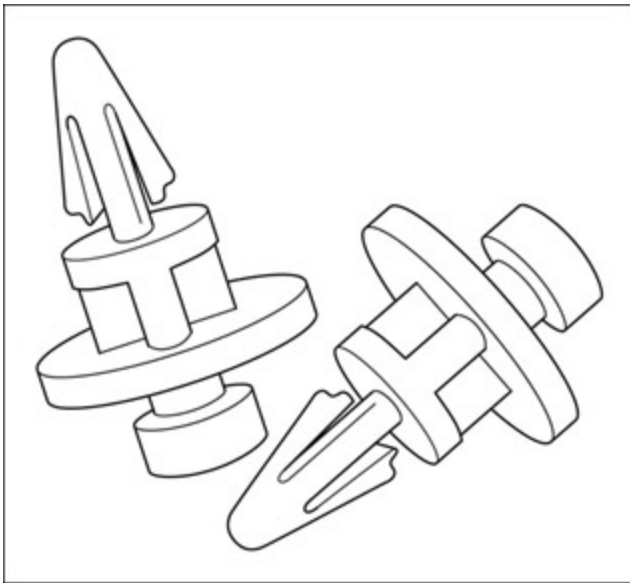

Figure 16-1: Spacers are used to keep the motherboard from grounding against the system case.
1. Orient the motherboard so that its spacers (also called standoffs), shown in Figure 16-1, are aligned with the slots in the bottom of the case.